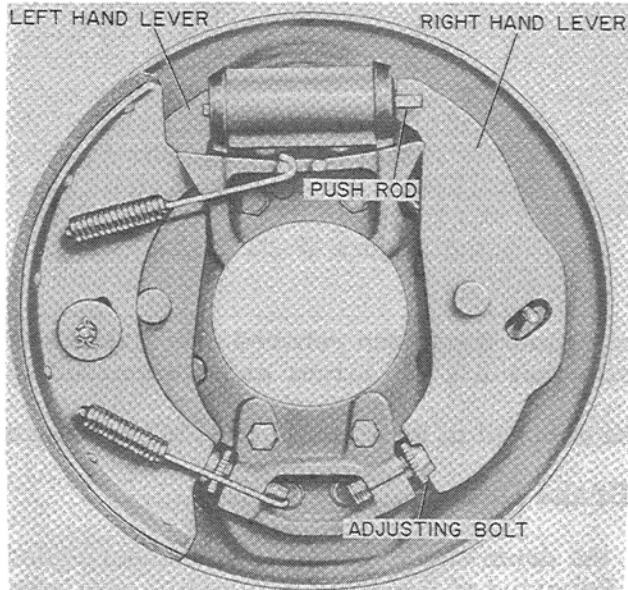

Figure W-34
3. Position the brake shoe lever so that the ends mate with the push rod at the top and the adjusting bolt at the bottom. There are right and left hand levers. Refer to Figure W-34.